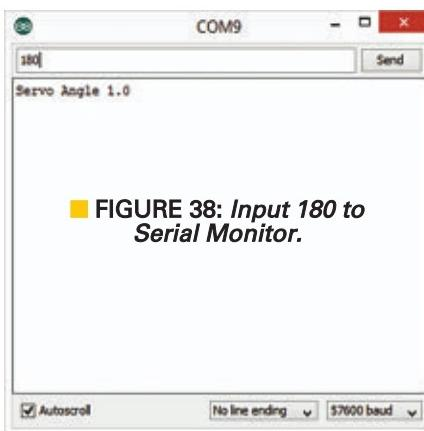

FIGURE 38: Input 180 to Serial Monitor.
- Open the serial terminal and send it a value of 180 as shown in **Figures 38** and **39**.